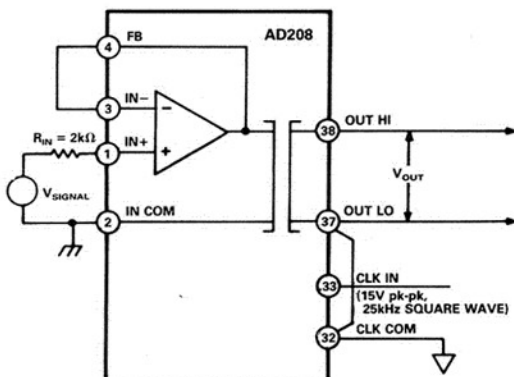

Figure 29. Basic Unity Gain Configuration
**Unity Gain Input Configuration.** The basic unity gain configuration for input signals of up to  $\pm 5 \text{ V}$  is shown in Figure 29.
**Note on the 2 kΩ Resistor:** The 2 k resistor placed in series with the input signal source and the IN+ terminal, designated as  $R_{IN}$  in Figures 29 and 30, is suggested so as to limit the current seen at the input terminals to 2.5 mA when the AD208 is OFF. The 2 k resistor will also reduce the overload recovery time to 2 ms.
**Signal Inversion.** The circuits illustrated in Figures 29 and 30 are "noninverting." If signal inversion is desired simply interchange the output leads of the circuits shown in Figures 29 or 30 to get inversion. This approach allows for the retention of the high input impedance characteristics of the "noninverting" circuit.